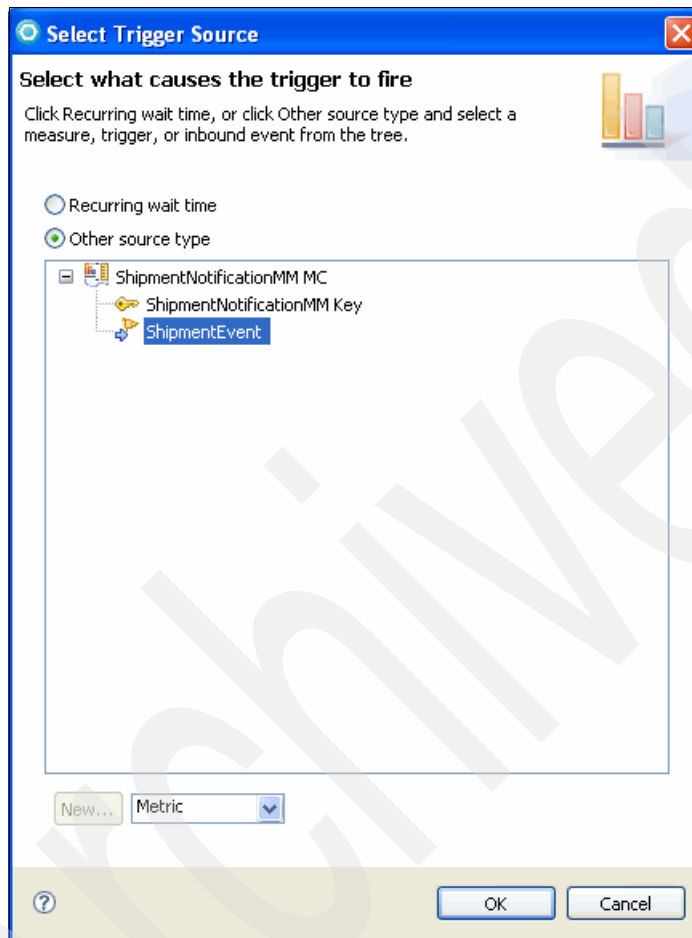

Figure 9-48 Select Trigger Source window
4. In the Select Trigger Source window (Figure 9-48), select **ShipmentEvent** as the cause for the trigger to fire. Click **OK**.